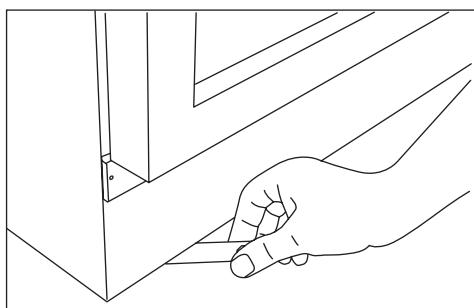

fig. 10
1. Level the appliance sideways by screwing the adjustable feet up or down using the accompanying spanner. see fig 10